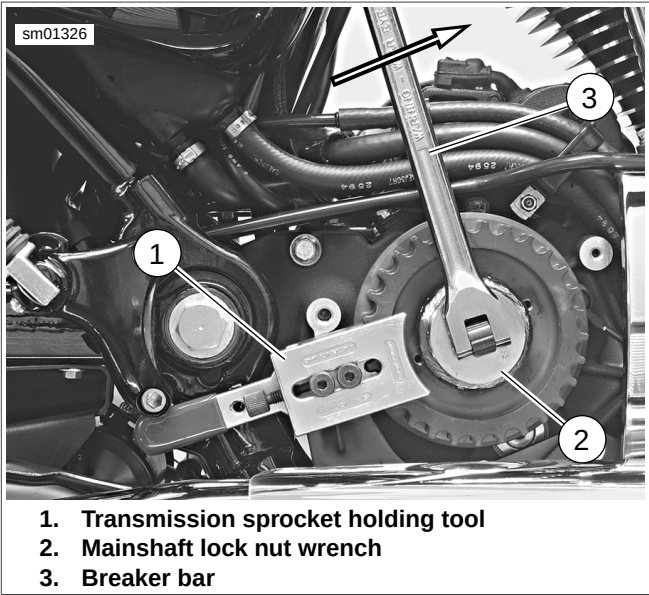

Figure 5-109. Removing Transmission Lock Nut: All Models (XL Model with Passenger Footrests Shown)
2. See Figure 5-109. Use **TRANSMISSION SPROCKET HOLDING TOOL SET** (Part No. HD-46282-A) (1), **MAIN-SHAFT LOCK NUT WRENCH** (Part No. HD-46288) (2), and a breaker bar (3) to remove transmission sprocket nut. Place handle of sprocket holding tool under bottom of footrest bracket. Turn nut **clockwise** to loosen and remove it.